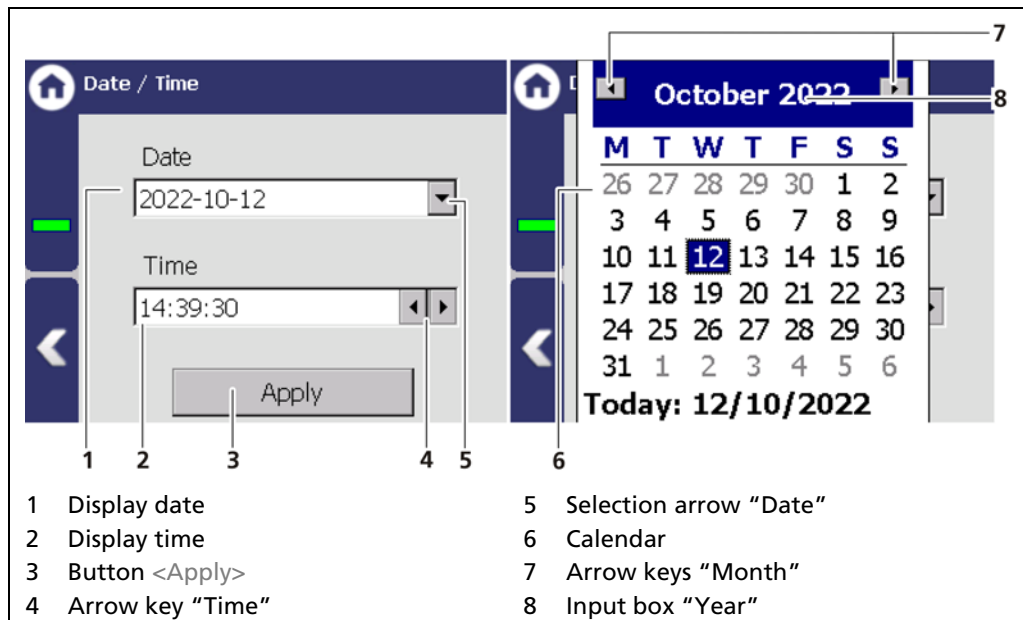

Fig. 30 Date / Time, calendar
1. Click on the arrow key (Fig. 30, item 5) in order to set the date.
- ▶ The calendar is opened (Fig. 30, item 6).
2. Click on the year number (Fig. 30, item 8) in order to enter the year.
3. Set the month (Fig. 30, item 7) by clicking on the arrow keys.
5. Change the time by clicking on the arrow keys (Fig. 30, item 4).
6. Click on <Apply> (Fig. 30, item 3), to accept the date and time settings.